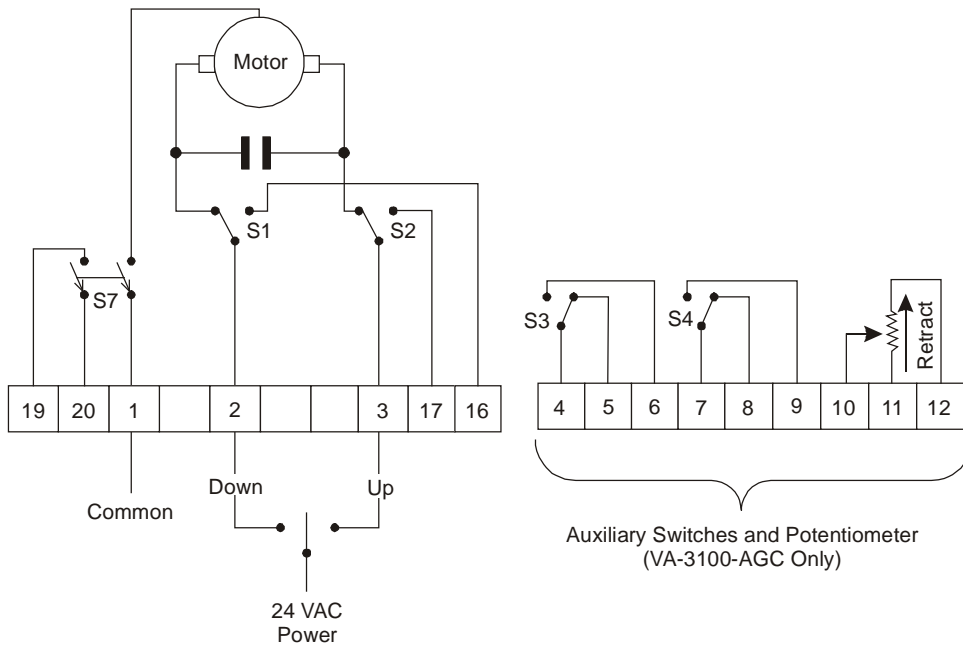

Figure 6: VA-3100-AGx Wiring Diagram for On/Off (Floating) Control
On actuators featuring a feedback potentiometer, the potentiometer provides position indication. Field adjust the potentiometer on its friction clutch shaft using a 3/16 in. blade screwdriver. Measure the nominal potentiometer resistance between Terminals 10 and 11 (as illustrated in Figure 6) when the actuator is positioned fully down.
1. Depress the side of the black power rocker switch marked with the symbol (—) and apply power to Terminals 1 and 2 (as illustrated in Figure 6) to drive the valve stem fully down.
3. Connect an ohmmeter to Terminals 10 and 12 (as illustrated in Figure 6) and read the resistance. Adjust the potentiometer for 50 to 150 ohms using a 3/16 in. blade screwdriver.
4. Apply 24 VAC power to Terminals 1 and 3 (as illustrated in Figure 6) to drive the valve stem fully up.